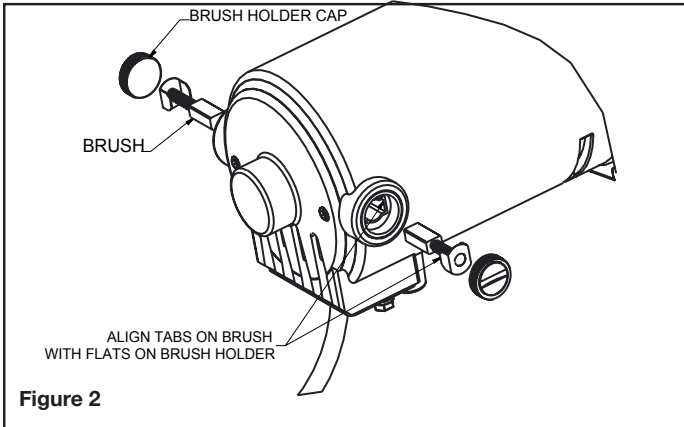

Figure 2
- 4) Replace brushes, make sure springs do not pinch during assembly. Align/center tabs on the back of the brush spring with the flats on the brush holder. Ref. fig 2.
14. Replace the brushes and caps, make sure to put them back in the same way they came out. Make sure the springs do not pinch during assembly and align/center the tabs on the back of the brush spring with the flats on the brush holder. Ref. fig. 2